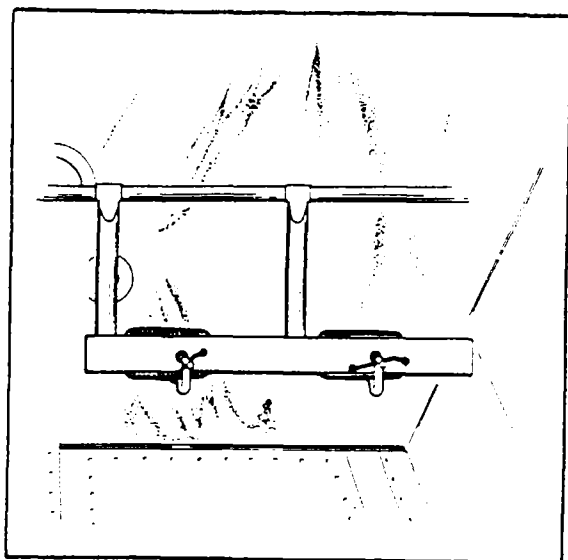

Figure 6-3. Clamping Rudder Pedals in Neutral Position
- f. Clamp the rudder pedals to align in a lateral position. (Refer to Figure 6-3.)